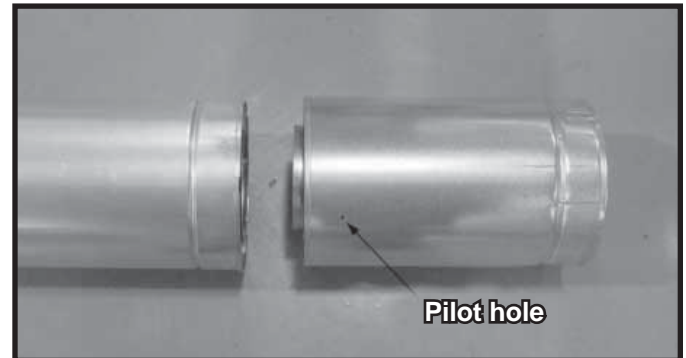

Figure 8.6 Slip Section Pilot Holes
- Slide the inner flue of the slip section into the inner flue of the pipe section and the outer flue of the slip section over the outer flue of the pipe section. See Figure 8.6.
- Secure the pipe and slip section with two screws no longer than 1/2 in. (13 mm), using the pilot holes in the slip section. See Figure 8.6.